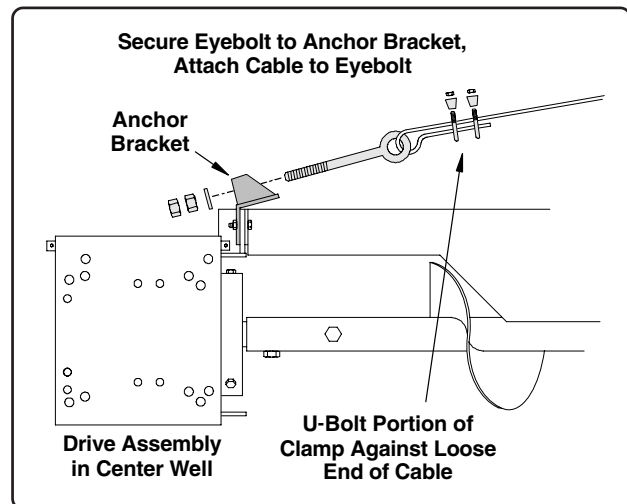

Fig. 20
2. Route the cable through the small hole at the rear of the truss stand to the cable anchor bracket on the side of the gearbox frame (See Fig. 20).
3. Attach the 5/8" x 11" eyebolt to the cable anchor bracket on the side of the gearbox frame (part of the drive assembly in center well). Secure the eyebolt using one flat washer and two non-lock nuts (See Fig. 20).